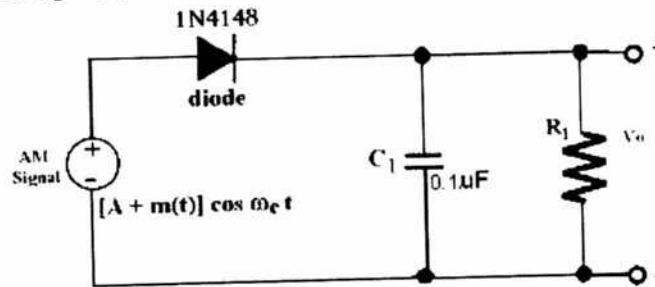

Fig.6. Envelop Detector Circuit
2.1. Prepare circuit of Fig. 6:
Fig. 6 shows an envelop detector circuit. The design equation for this circuit is : $f_{co} = 1/(2\pi R_1 C_1)$ where f_{co} is the cut-off frequency of the low-pass filter $R_1 C_1$. The capacitor C_2 is a coupling capacitor, chosen such as $C_2 > C_1$